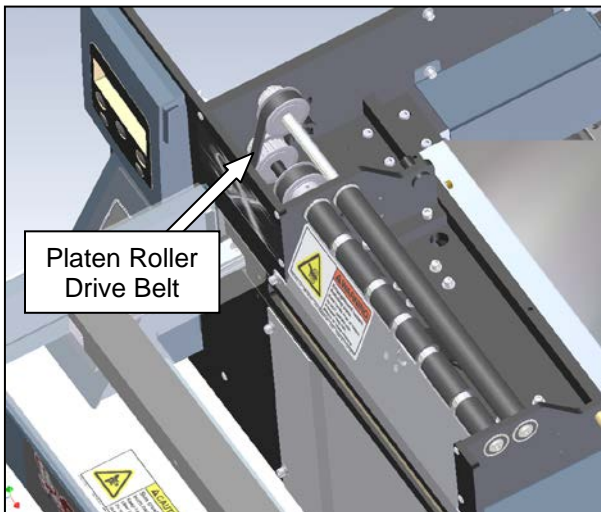

Figure 2-10 Platen Roller Drive Belt
2. Check the platen roller drive belt for tension (Figure 2-10). This belt should deflect approximately 1/16" using one finger to push on the center of the belt span.